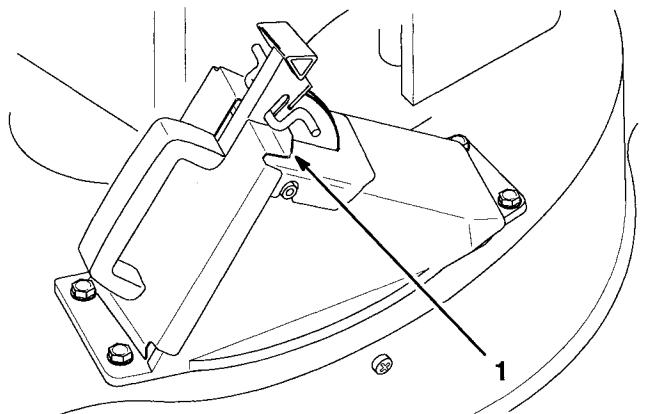
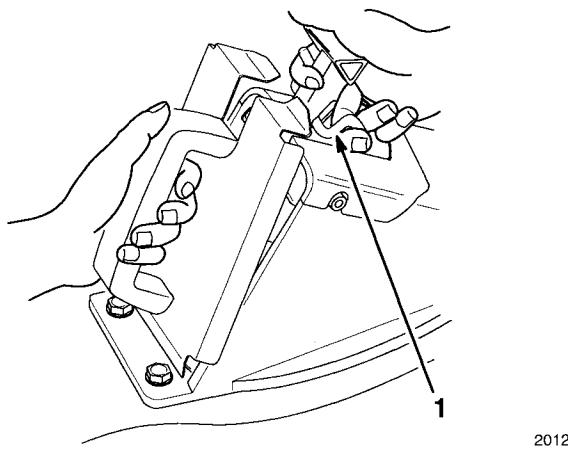

Figure 5
Figure 4
1. Tab (2)
2. Insert the plug into the discharge tunnel opening and fit the lower section into the opening first (Fig. 4).
3. Lift door latch on door handle (Fig. 4). Push the top of the plug all the way in while moving the door handle rearward. Release the door latch, allowing it to hook over tabs on plug (Fig. 5).